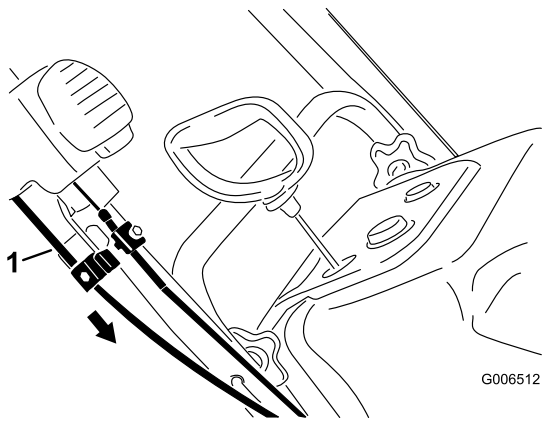

Figure 41
4. Hold the discharge chute in the straight-ahead position, pull the lower cable casing downward until you remove the slack in the cable, and tighten the screw on the lower cable clamp securely (Figure 41).